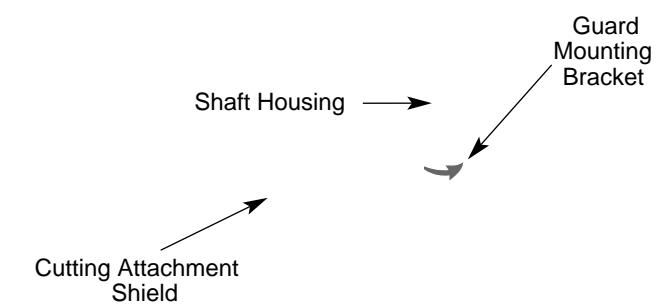

Fig. 3
- Place the cutting attachment shield onto the shaft housing. Be sure the guard mounting bracket slides into the slot on the edge of the cutting shield. Rotate the shield into place, counterclockwise. The holes in the guard mounting bracket and cutting attachment shield will line up (Fig. 3).